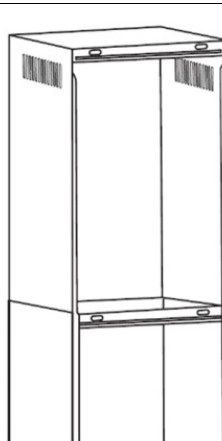
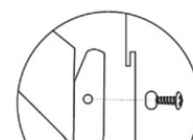

Fig. 1
Fig. 2
20. Hook the outer and inner flue panels into the brackets (Fig. 1).
21. Screw the inner flue panel to the side of the bracket with 2 screws (Fig. 2). Hang the outer flue panel in the bracket (Fig. 1).